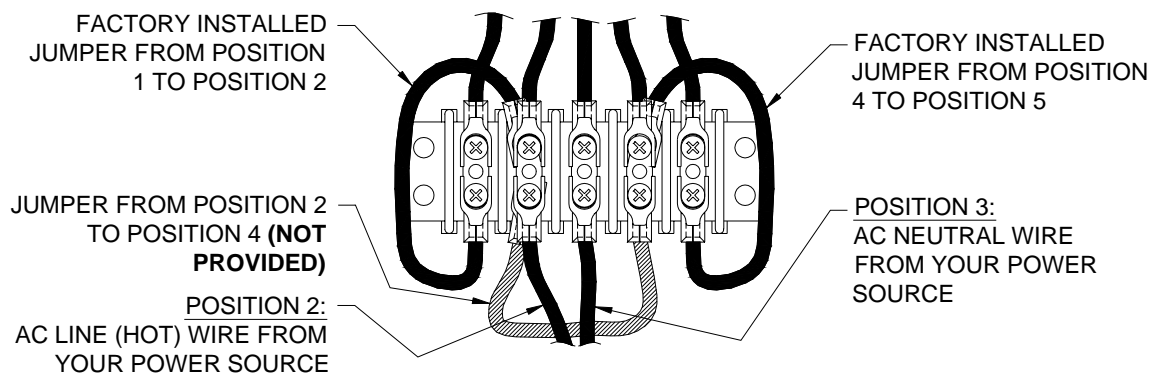

Figure 9 120 VAC Connections
- If you are going to connect the scoreboard to a 120 VAC supply, connect the AC line wire to position 2 and the AC neutral wire to position 3 of terminal strip T3 on the junction chassis. Add a jumper from position 2 to position 4. **This jumper is not provided.** Refer to figure 9.